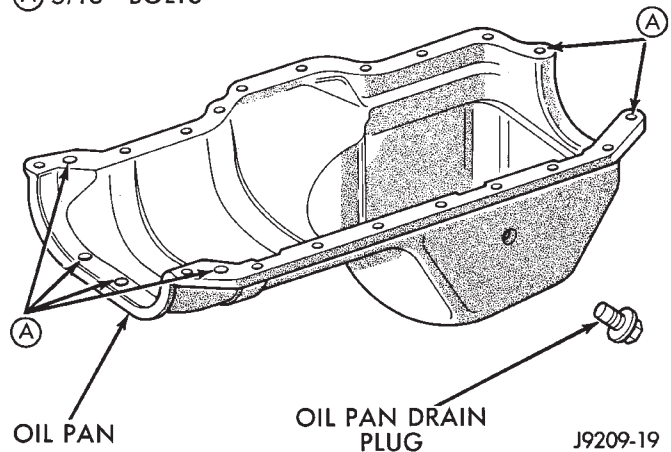

Fig. 3 Position of 5/16 inch Oil Pan Bolts
(3) Slide the one-piece gasket over the dowels and onto the block and timing case cover.
(4) Position the oil pan over the dowels and onto the gasket.
(5) Install the 1/4 inch oil pan bolts. Tighten these bolts to 14 N·m (120 in. lbs.) torque. Install the 5/16 inch oil pan bolts (Fig. 3). Tighten these bolts to 18 N·m (156 in. lbs.) torque.
(6) Remove the dowels. Install the remaining 1/4 inch oil pan bolts. Tighten these bolts to 14 N·m (120 in. lbs.) torque.
(7) Lower the engine until it is properly located on the engine mounts.
(8) Install the through bolts and tighten the nuts.
(9) Lower the jack stand and remove the piece of wood.
(10) Install the flywheel/torque converter housing access cover.
(11) Install the engine starter motor.
(12) Connect the exhaust pipe to the hanger and to the engine exhaust manifold.
(13) Install the oil pan drain plug (Fig. 3). Tighten the plug to 34 N·m (25 ft. lbs.) torque.
(14) Lower the vehicle.
(15) Connect negative cable to battery.
(16) Fill the oil pan with engine oil to the specified level.